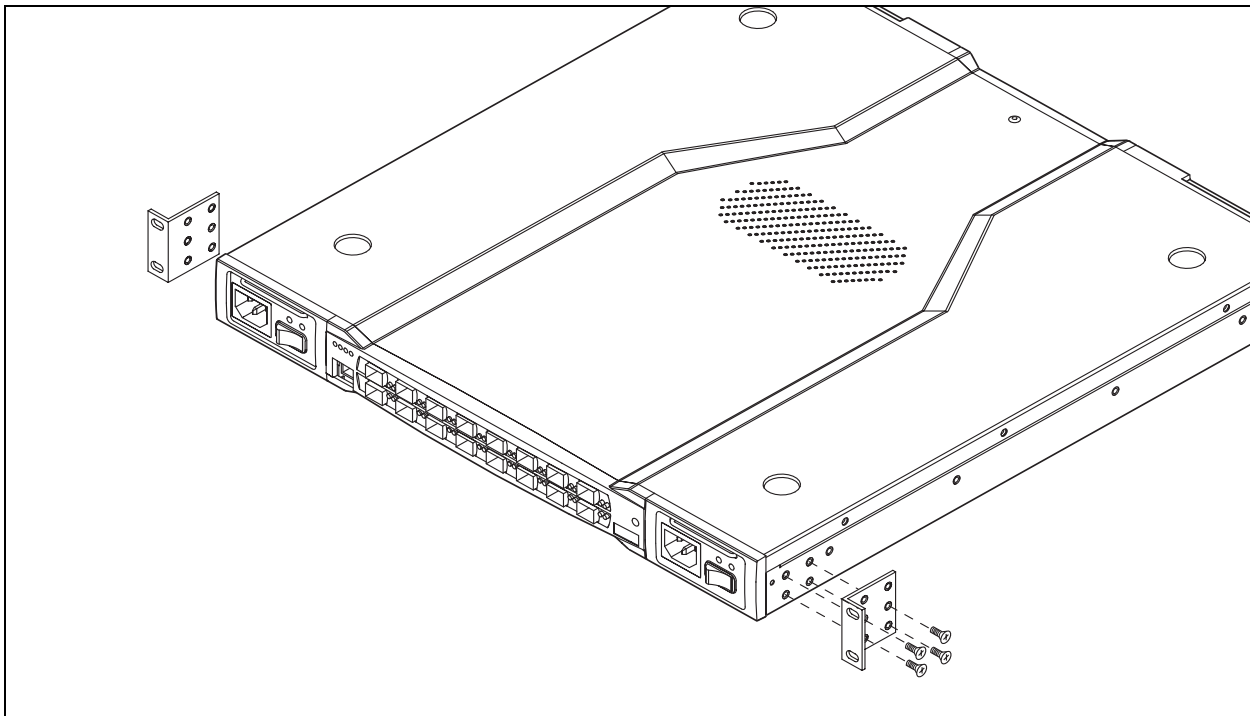

Figure 4-2. Installing Rack Mount Brackets
2. Mount the brackets on the front or rear corners of the chassis as shown in Figure 4-2.